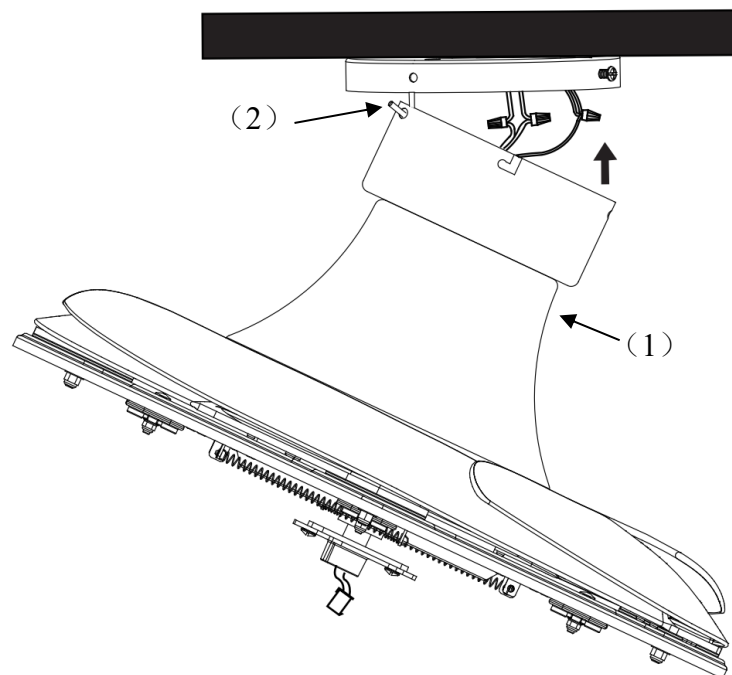

Fig. 6
- Lift the fan assembly (1) up to the mounting bracket. Hang the fan assembly onto the J-hook (2) of the mounting bracket. (**Fig.6**)